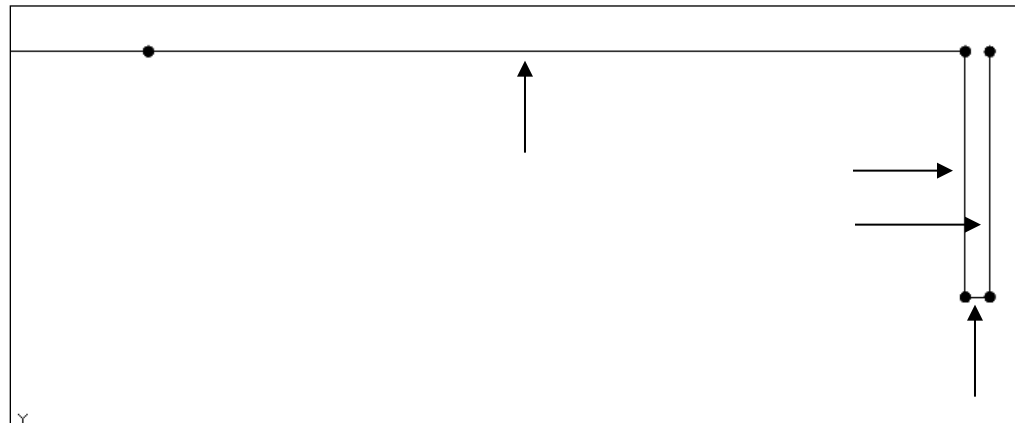

Figure 5 Arcs including the sheet pile
4. Using the **Create Arc**  tool, create the arcs indicated with arrows in Figure 5.